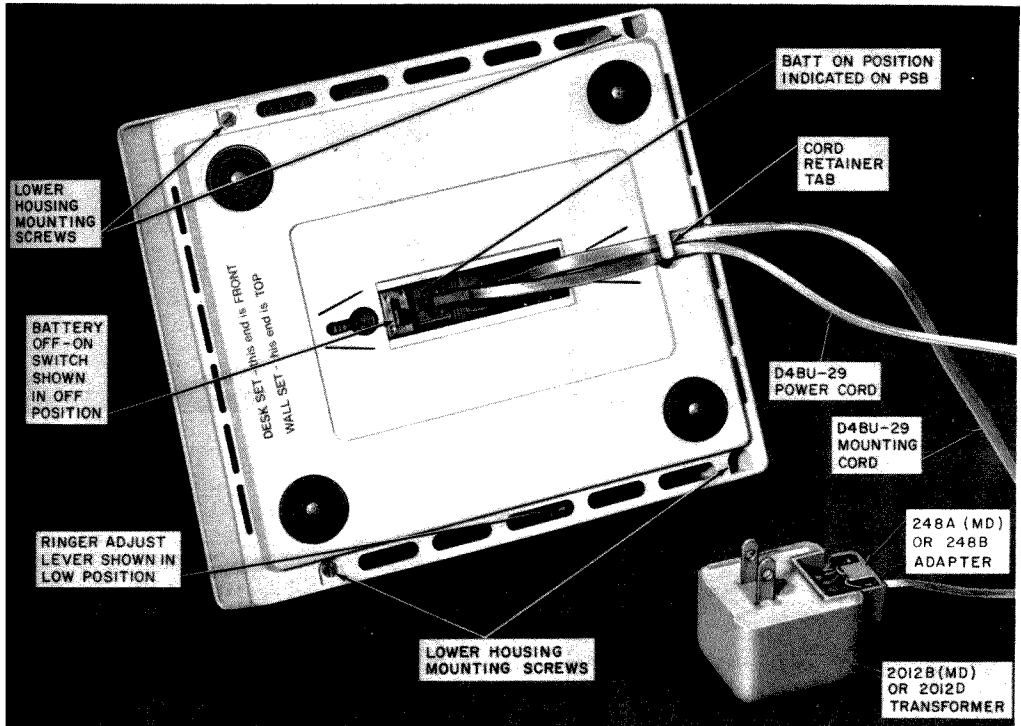

Fig. 2—2960A01M (MD) Telephone Set, Bottom View
- Battery OFF-ON switch (located on the bottom of the set, Fig. 2), should be in the OFF position when set is not in service.